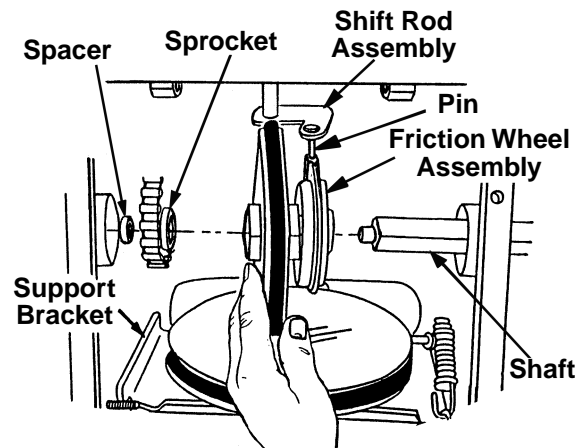

Figure 24
7. Sliding the shaft to the right, remove the spacer, sprocket, and friction wheel assembly from the shaft. See figure 24.
10. Position the friction wheel assembly up onto the pin of the shift rod assembly, and slide the shaft through the friction wheel. See figure 24.
11. Slide the shaft into the **hex I.D.** of the sprocket, the spacer, and the left ball bearing, and secure with the bell washer and hex bolt. See figure 24.